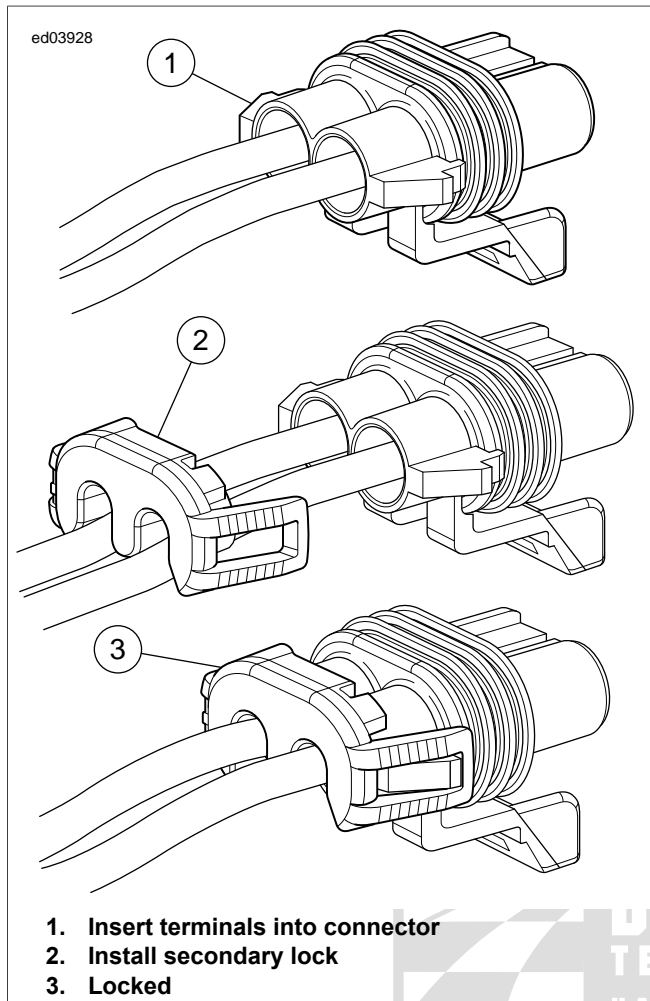

Figure B-10. Insert Terminals Push-to-Seat
1. See Figure B-10. Plug terminals into connector assembly.